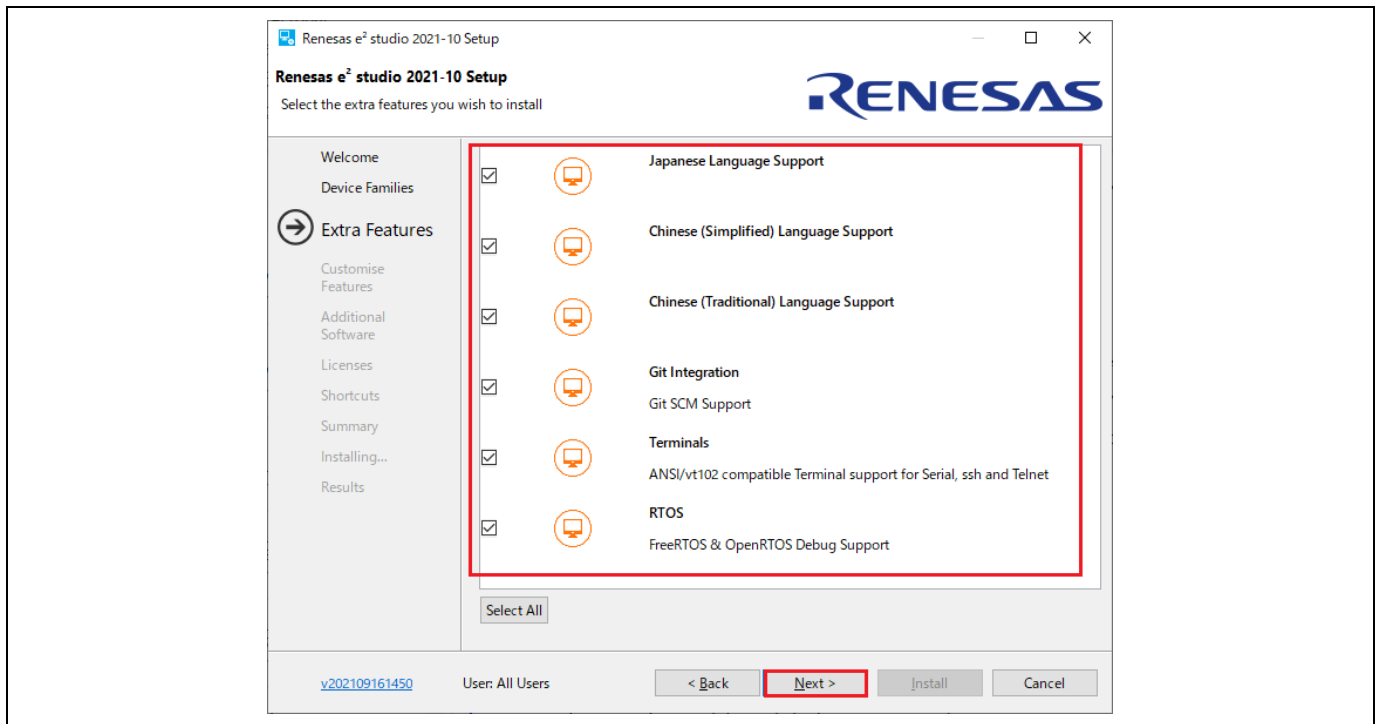
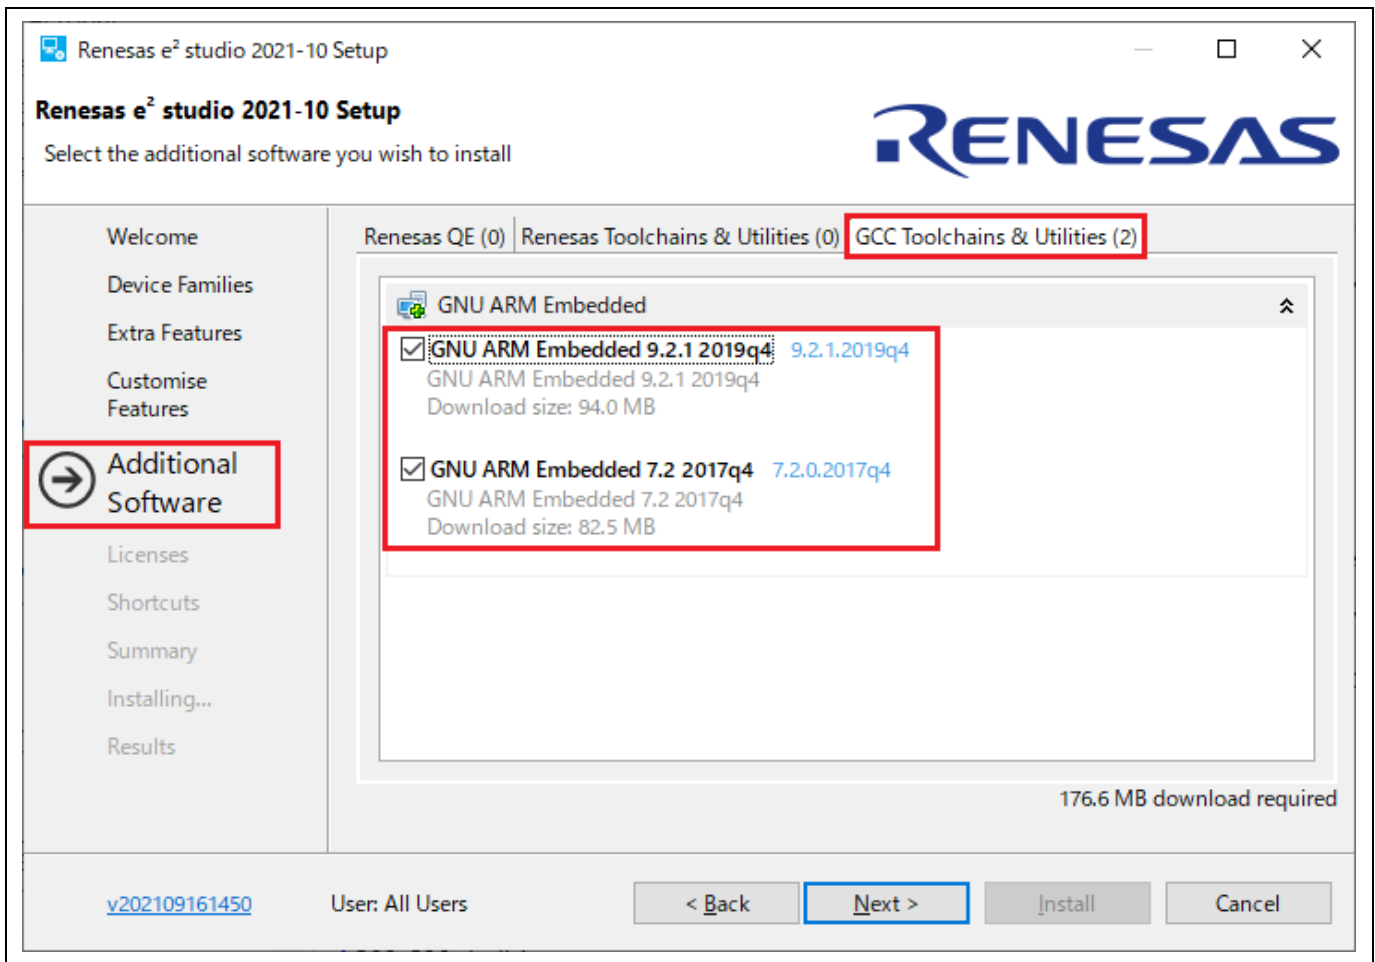

Figure 2-11. Installation – Extra Features Page
Figure 2-13. Installation – Additional Software
2. If you specify a custom installation, configure the settings from Figure 2-11 to Figure 2-13